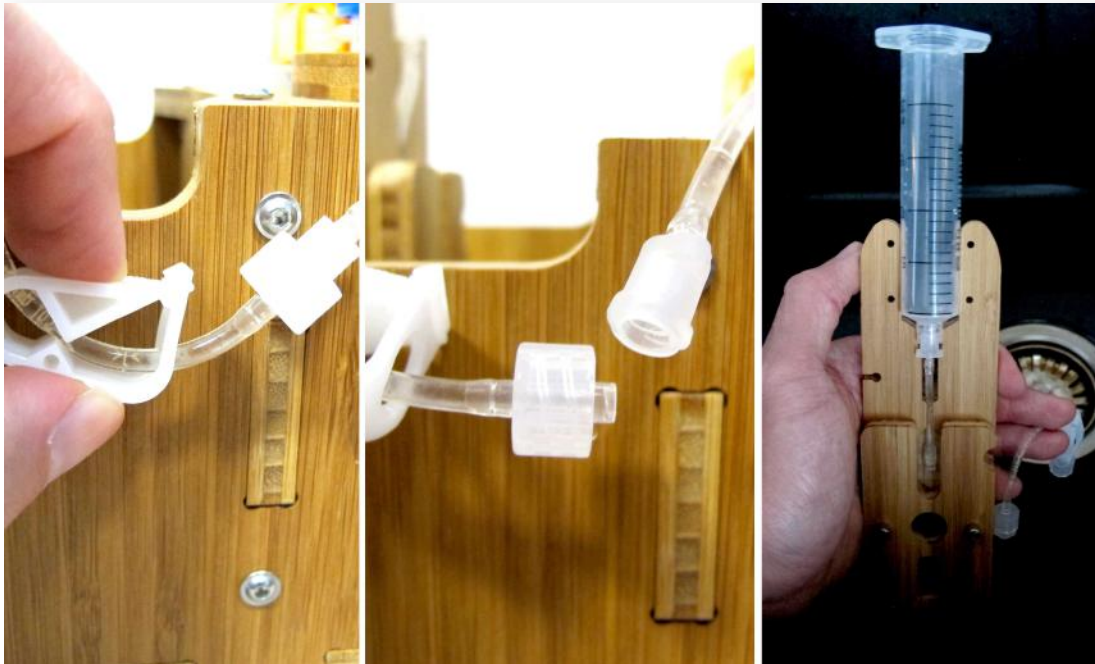

Figure 7: How to remove the part of the fluidic system containing the Flow Cell to fill the syringe with water
2. Fill the sample in the syringe. For this you can just remove the full sample holder and fill it on top of a sink (to not risk spills on-top of the PlanktoScope; Fig.7)